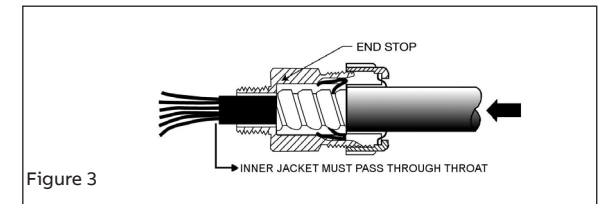

Figure 3
3. Feed cable through gland nut opening and push until cable armor hits end stop (Figure 3).